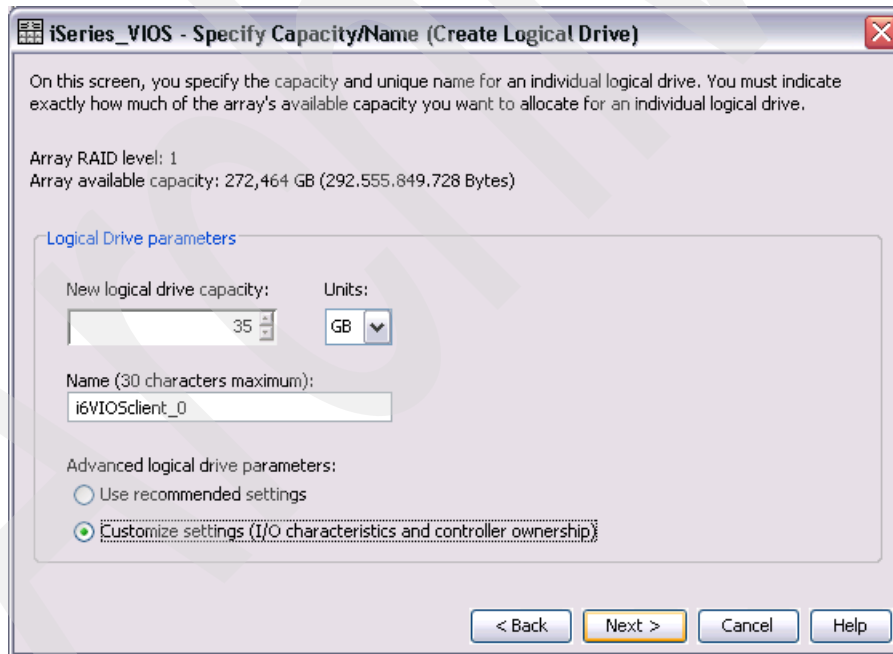

Figure 7-55 DS Storage Manager Create Logical Drive dialog
7. For the new logical drive to be created we specify a LUN size of 35 GB, provide it the name `i6VIOSc1ient` of our IBM `i` client partition, choose **Customize settings (I/O characteristics and controller ownership)**, and click **Next**, as shown in Figure 7-55.